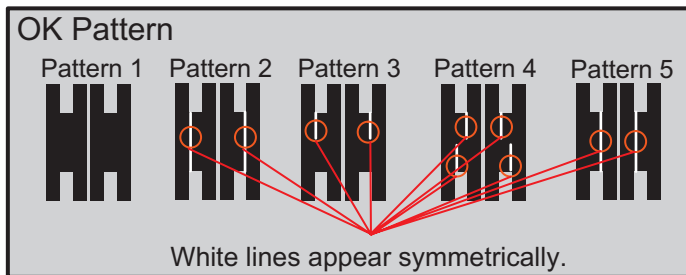
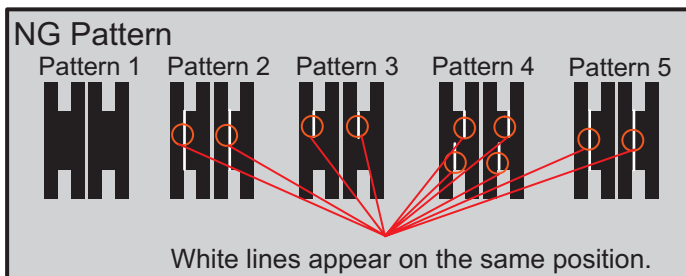

Figure 5-17. OK Patterns
Figure 5-18. NG Patterns
7. Referring to Figure 5-17 and Figure 5-18, determine whether the H-shape patterns are good or not. The figures includes four patterns which are OK and four patterns which are NG (No Good).
27. From the 5 output check patterns, select the most desirable one based on the reference patterns given in Figure 5-17 and Figure 5-18, and ensure the angular lever position for the selected pattern.